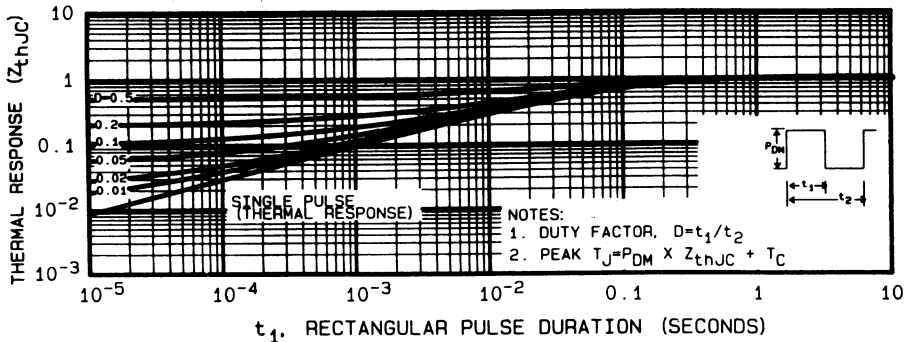

Fig. 5 - Maximum Effective Transient Thermal Impedance, Junction-to-Case Vs. Pulse Duration
1. Repetitive Rating: Pulse width limited by maximum junction temperature (see Figure 5).
① Repetitive Rating: Pulse width limited by maximum junction temperature (see figure 5).
② @ $V_{DD} = 50V$, Starting $T_J = 25^\circ\text{C}$,